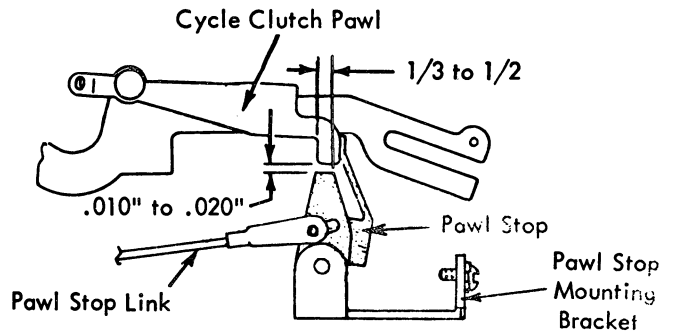

FIGURE 62. Cycle Clutch Pawl Stop
8. **Cycle Clutch Pawl Stop** - Adjust the pawl stop mounting bracket so that the cycle clutch pawl stop clears the cycle clutch pawl by .010" to .020" with keyboard locked. Best results are obtained on the high side of the adjustment (Fig. 62).
9. **Pawl Stop Link** - Adjust the pawl stop link so that there is 1/3 to 1/2 overlap of the cycle clutch pawl stop to the cycle clutch pawl with the keyboard lock mechanism in the lock position (Fig. 62).